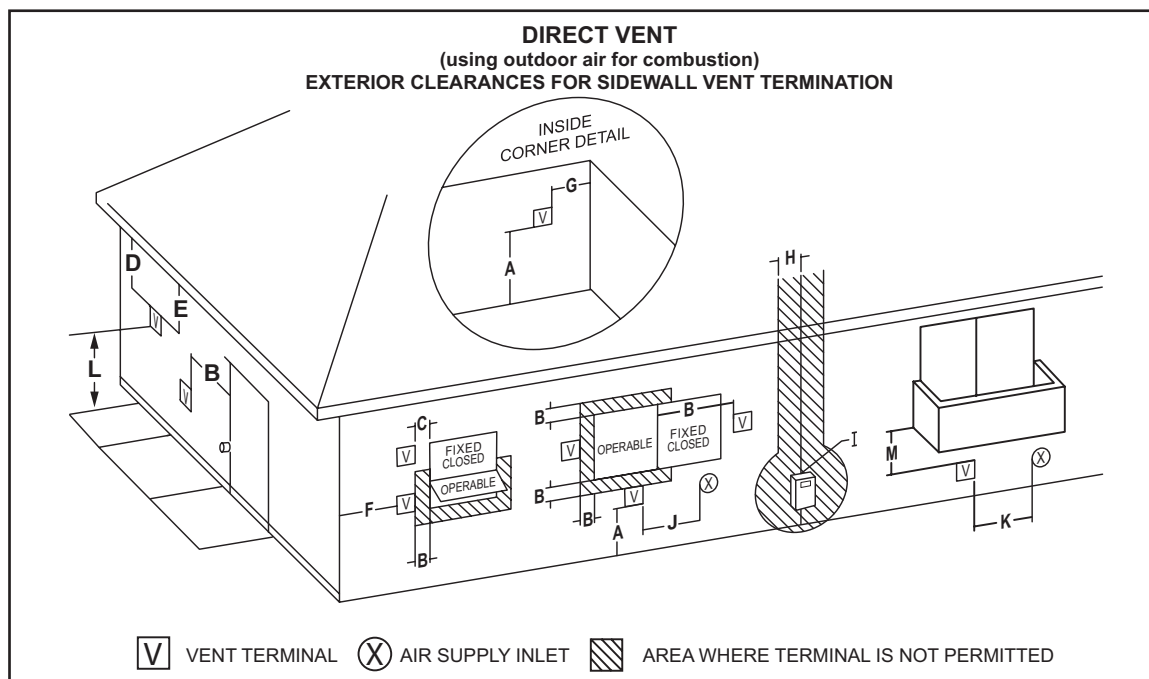

FIGURE 18B
2. If installing both intake air and vent piping in a Direct Vent configuration through a sidewall; ensure that all exterior sidewall clearance requirements for the terminations, shown in Figure 18B on page 21, for the vent and intake air termination are being maintained. These clearances and those cited by local and national codes must be maintained.
1. Use the inside wall cover plate as a template to mark two holes in the appropriate places on the wall. Cut holes 1/2" (12.7 mm) larger to facilitate easy installation of vent hoods, see Figures 18B and 19.